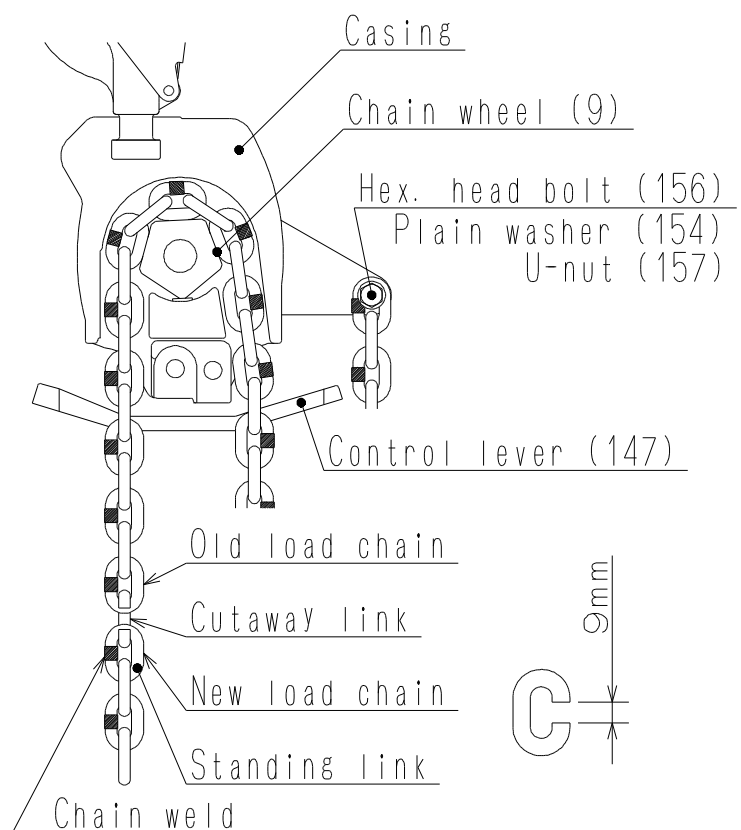

Fig.8
3. Method 2 (See Fig. 8)
- 2) Using an abrasive wheel, etc., cut a portion of the second link from the end (i.e. the first flat link) as shown in Fig. 8.